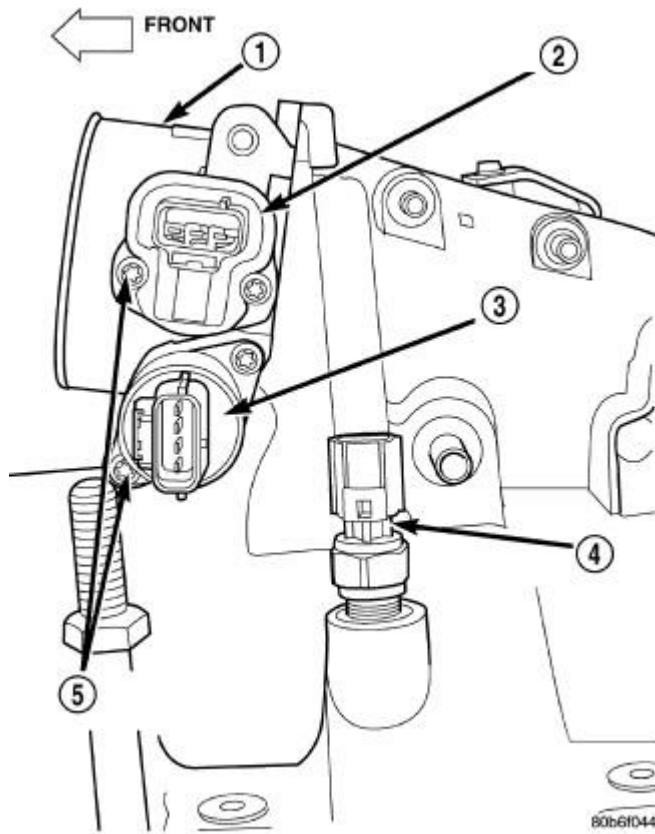

Fig. 18: Throttle Body Connection Points
25. Connect the engine wiring harness at the following points : Refer to **Fig. 18**.
- Intake air temperature (IAT) sensor (4)
- Throttle Position (TPS) Switch (2)
- Idle Air Control (IAC) Motor (3)